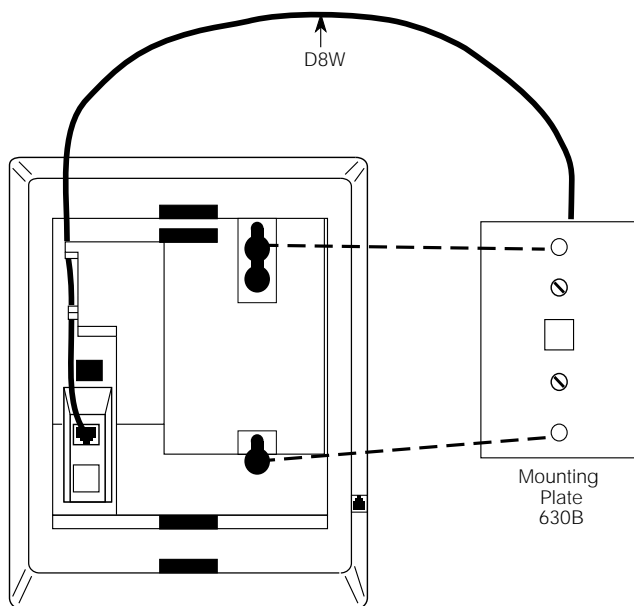

Figure 3-38. Routing the Cord Through the Backplate
- f. Plug the free end of the cord into the LINE jack on the back of the telephone. Route the cord through the cord channel above the jack. See Figure 3-38.